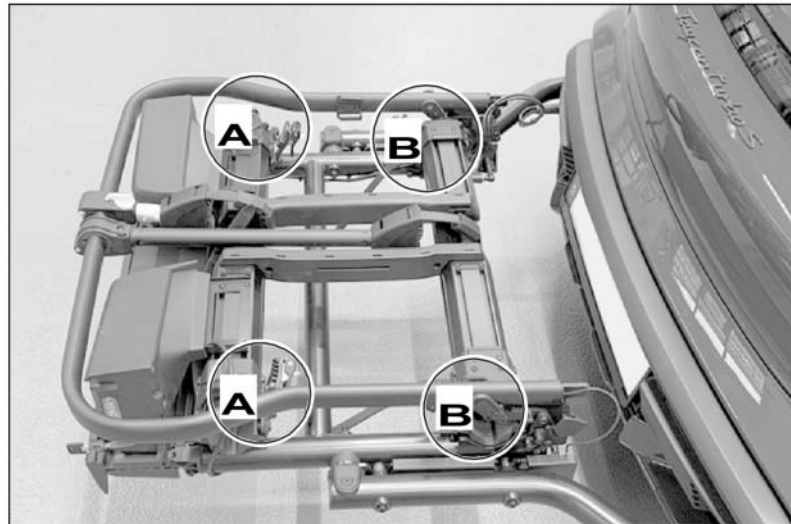

Figure 30
30. – The locking strap secures the support bar. Wrap both locking straps around the support bar ⇒ *Figure 30-LHD vehicle* -, push them into the ratchet and secure with the black ratchet lever. The two front locking straps can be used to secure the flaps better during transport. They are looped ⇒ *Figure 30-RHD vehicle* - and secured around the wheel rail. Now disconnect the electric plug connection for the lights from the electrical socket next to the left support bracket by turning it anti-clockwise.